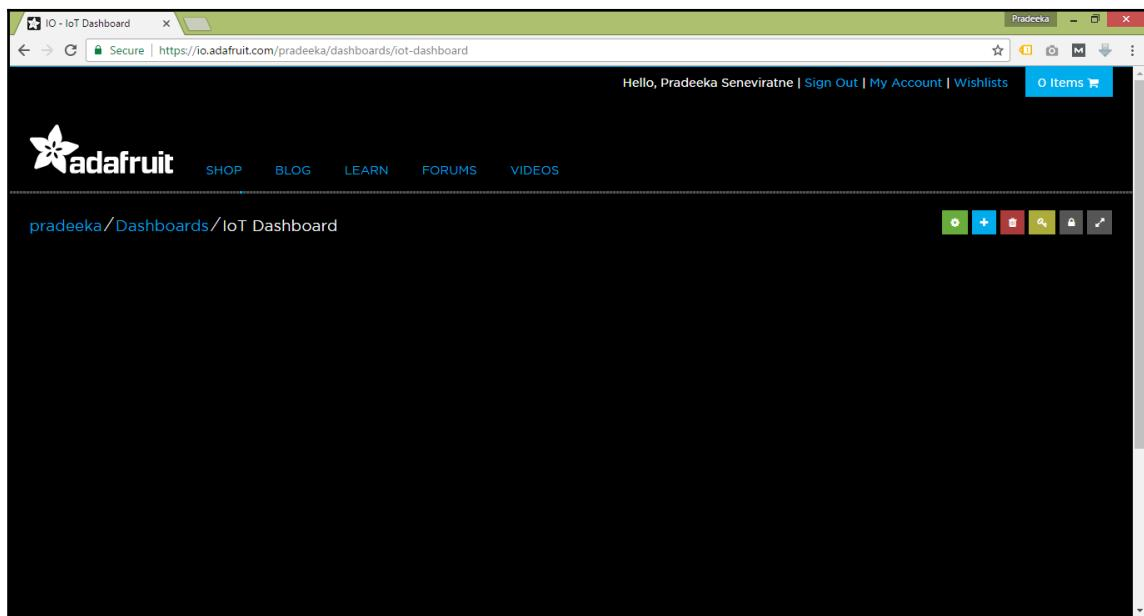

Figure 4-13: IoT dashboard page
1. Click on the **IoT Dashboard** link under the **Name** column. You will navigate to the dashboard page located at the `(username)/dashboards/iot-dashboard` path, as shown in Figure 4-13: